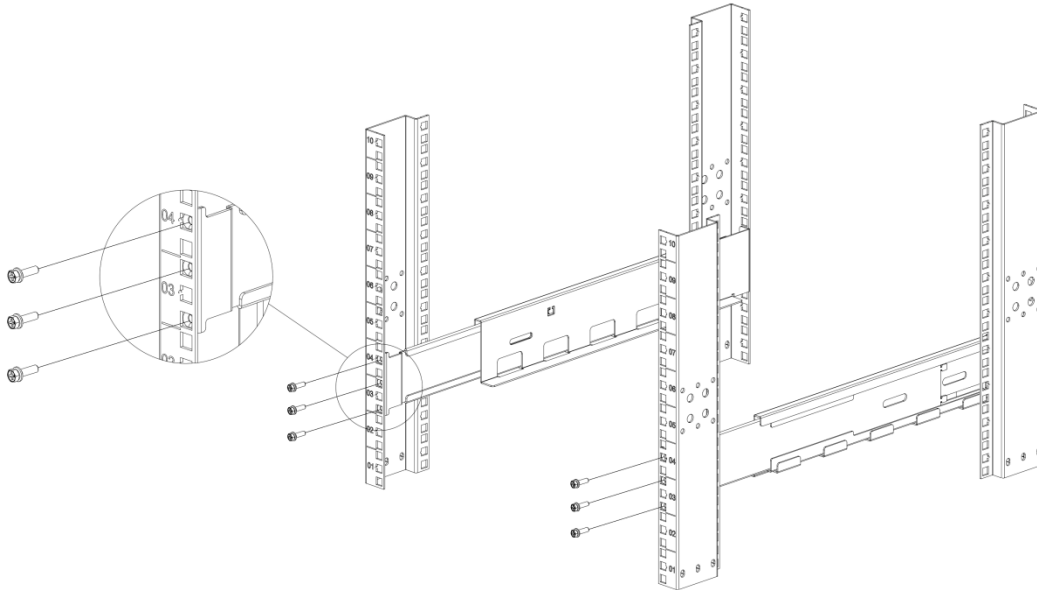

Figure 26: Install the Rear Side of Rails
14. Assemble the rear side of the rail kit with 3x Phillips Pan Head M5 screws (see Figure 26) on each rail.